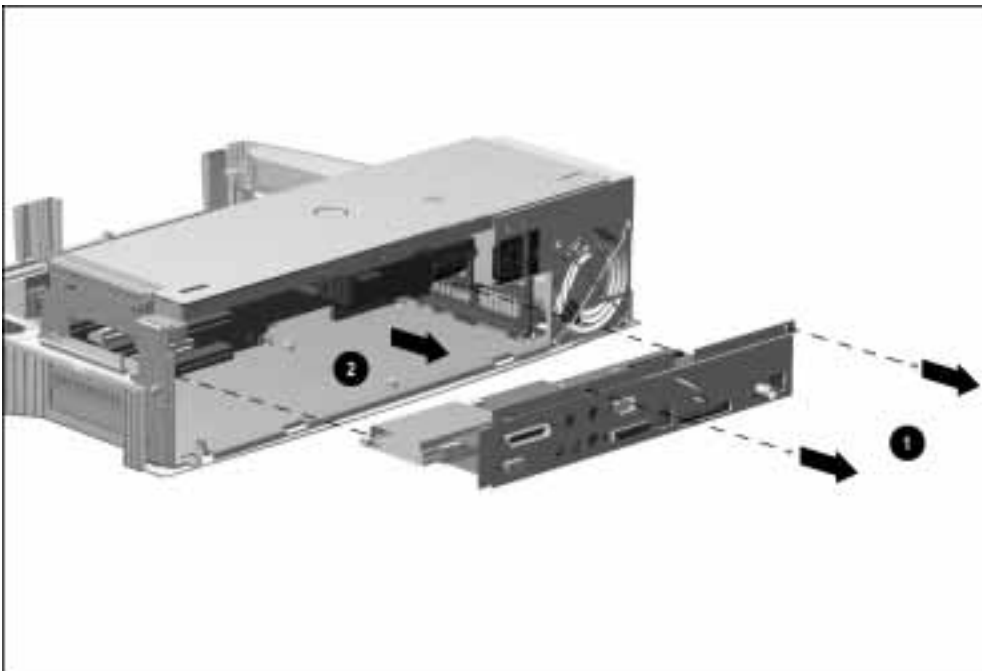

Figure 5-31. Removing the I/O Assembly
3. Remove the two screws ❶ securing the I/O assembly to the top brace (Figure 5-31).
4. Grasp the outside edges of the I/O assembly and pull the assembly until it disconnects ❷.